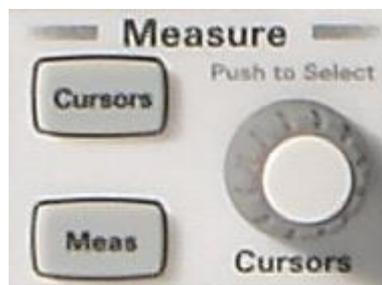

Figure 1-4-7
3. Let's now use the scope's "cursors" function to make these same voltage and timing measurements; but without having to count divisions and then multiply by scaling factors. First, visually locate the "Cursors" knob in the Measure section of the front panel as shown in Figure 1-4-7: